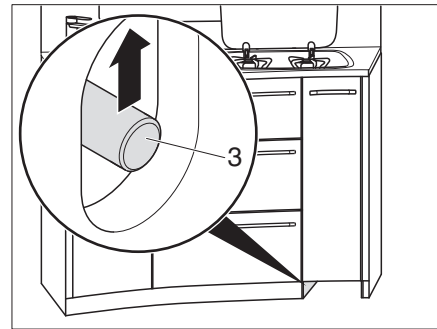

Fig. 121 Unlocking kitchen drawers
- Slide the push rod (Fig. 121,3) upwards.